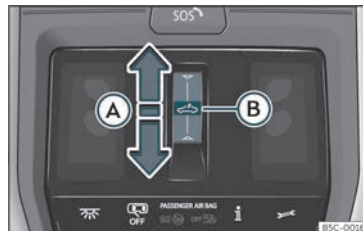

Fig. 87 On the interior roof lining: sunroof button.
• Automatic movement: slide your finger back over the functional area ☞ >>> Fig. 87 Ⓐ.
>> Fig. 87 (A) and keep pressed until the sunroof is fully closed.